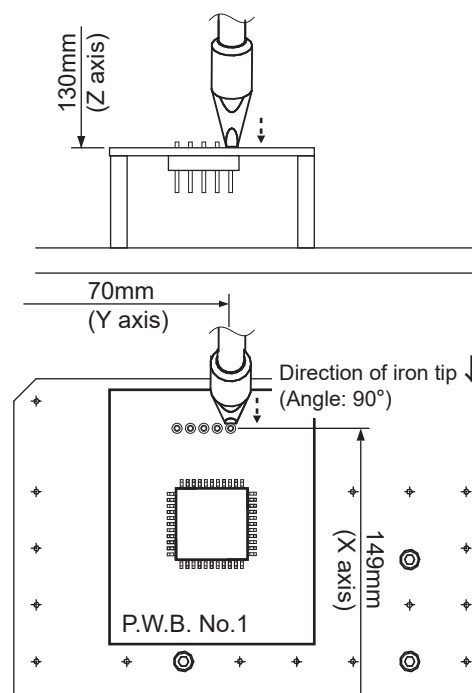
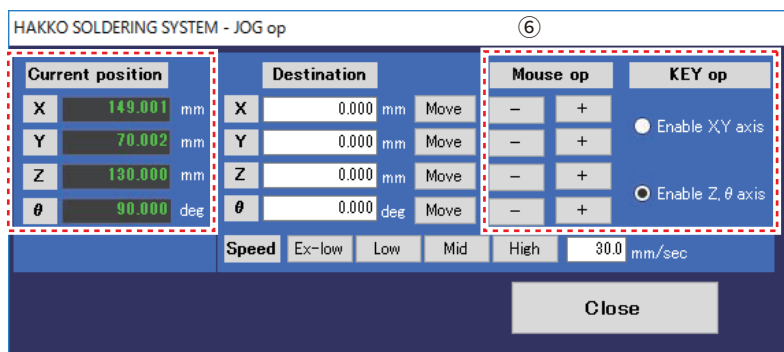

Fig. 7-23
Fig. 7-24
- ⑥ Perform fine adjustment by mouse operation and KEY operation so that the tip is positioned at the soldering point (see Fig. 7-23). When positioning is completed, the coordinate of the soldering point is displayed on the current position shown in Fig. 7-24.